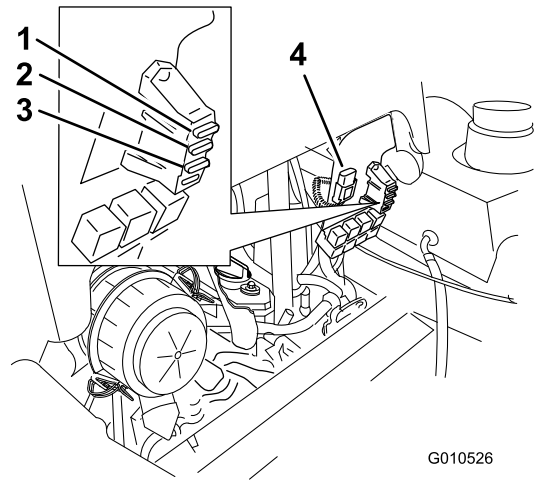

Figure 56
2. To replace a fuse, pull out on the fuse to remove it (Figure 56).